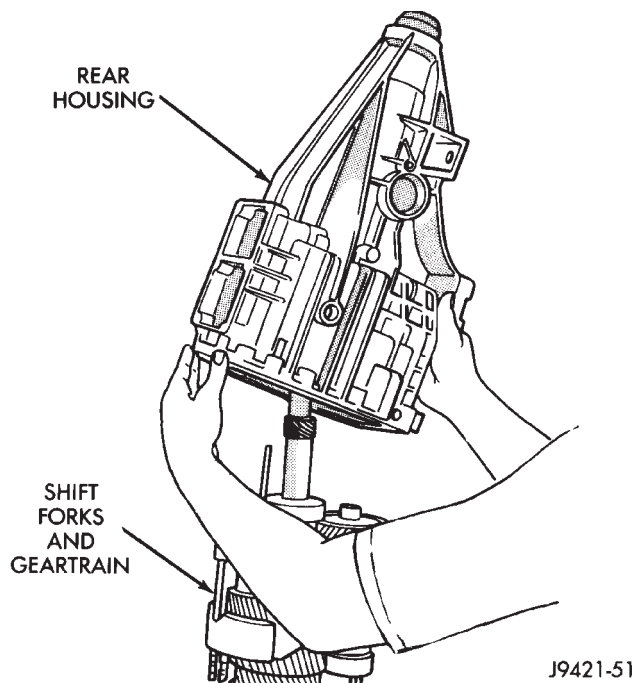

Fig. 31 Rear Housing Removal—2WD
- (3) Lift rear housing up and off geartrain (Fig. 31).